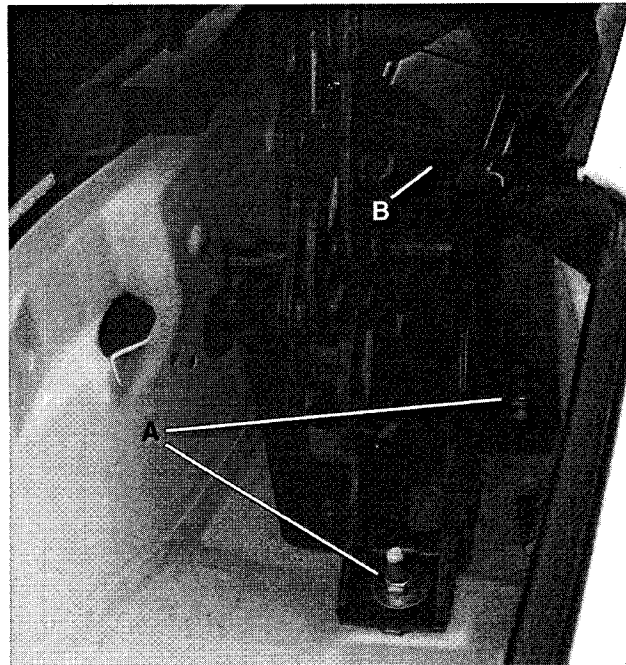

Fig. 3. Mounting nuts (A) for convertible top (two on each side). There is also a horizontal bolt with spacers on each side (B).
2. Remove fasteners in compartments behind door posts and lift out complete top. Count number of shims on horizontal mounting bolts. See Fig. 3.